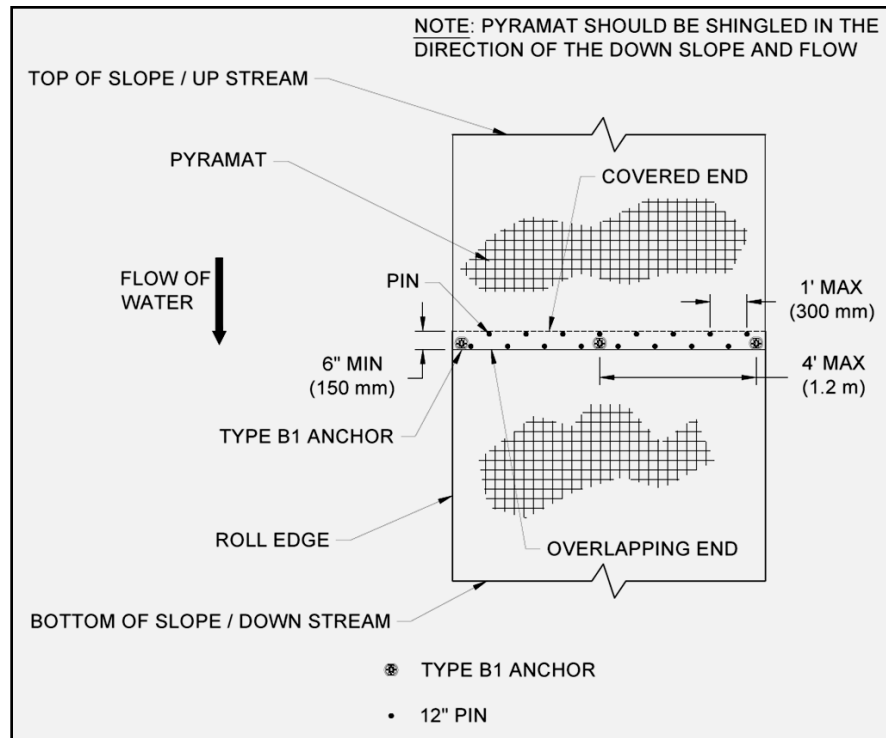

Figure 18: Roll End Overlap
- Roll ends shall be overlapped a minimum of 6 in (150 mm) with upstream / upwind panel on top. Secure roll end overlaps with two rows of pins staggered 6 in (150 mm) apart on 12 in (300 mm) centers and with one row of PDEAs on 4 ft (1.2 m) centers (Figure 18)